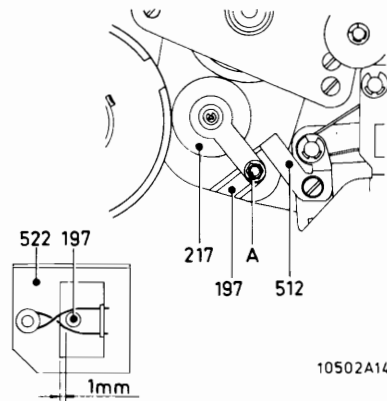

Fig. III-11
- Check that there is a clearance of 1.0 mm between the arm of idler wheel bracket 197 and bracket 522. If necessary, readjust the idler wheel with eccentric screw A (fig. III-11).